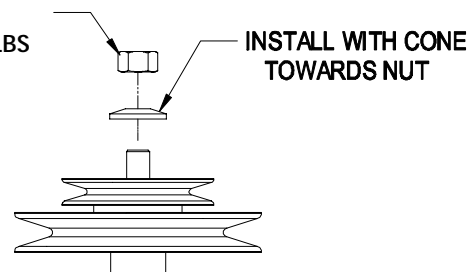

FIGURE 5
- Install the double sheave (Item 21) onto the right spindle shaft. Install the spring disk washer and nut removed in Step e). Make sure that the spring disk washer cone is installed towards nut (See Figure 5). Torque the sheave nut to: